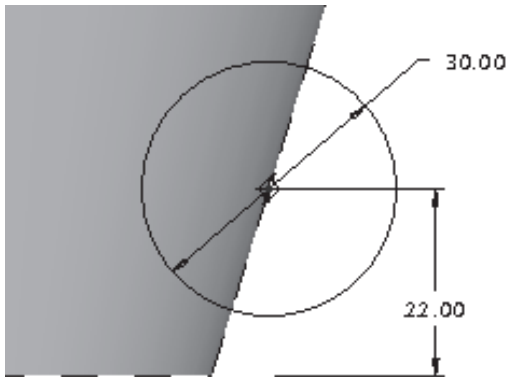

Figure 14-92 Sketch of the cylindrical surface
- e. The fourth feature is the cylindrical surface, refer to Figures 14-92 and 14-93.
4. After entering the **Sketcher** environment, draw the circle and dimension it as shown in Figure 14-92.